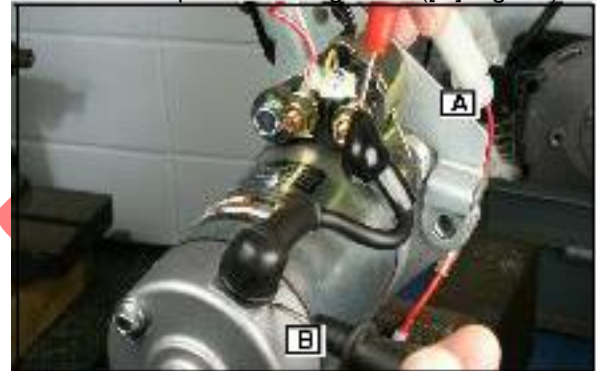

Fig. 59
Test for continuity at the output terminal (A) of the solenoid with the key in the **START** position and ground ([B] Fig. 59).